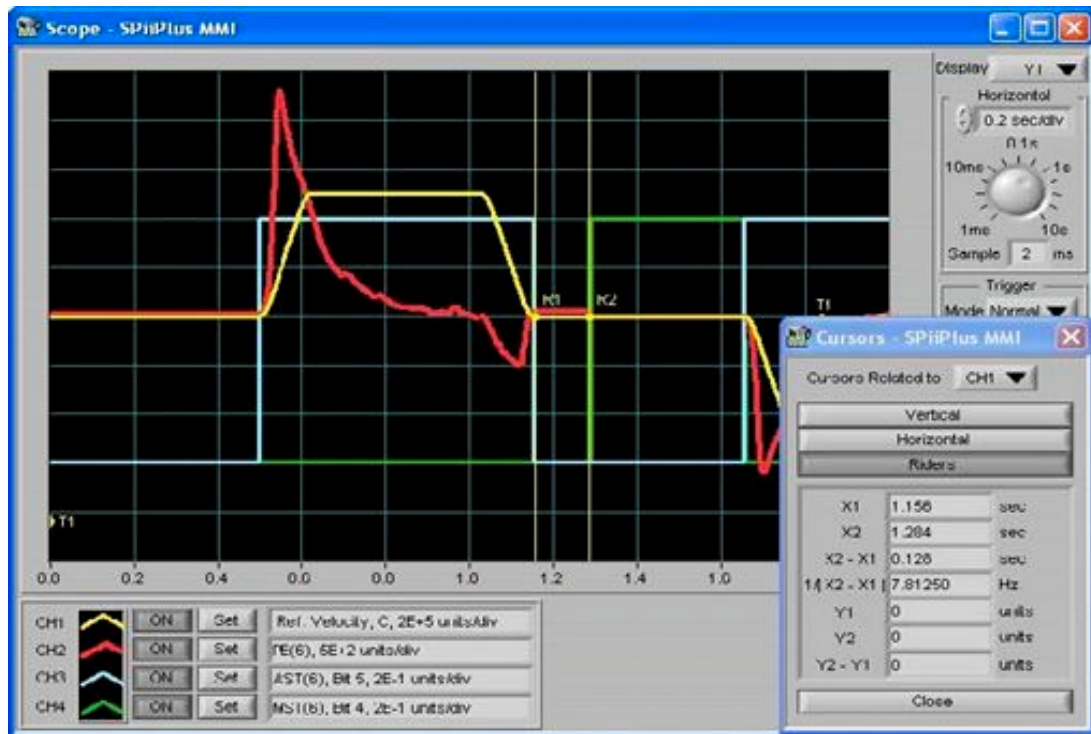

Figure 18-1. Measuring Settling Time (Piezoceramic Motor Example)
2. Open **SPiiPlus MMI Application Studio > Toolbox > Diagnostics and Monitoring > Scope**. Figure 18-1 depicts a Scope configured to measure settling time for a nanomotion piezoceramic motor.
Figure 18-1 is taken from the old version of the SPiiPlus MMI. The operations in this procedure are valid for the new version details of which can be found in the *SPiiPlus MMI Application Studio User Guide*.